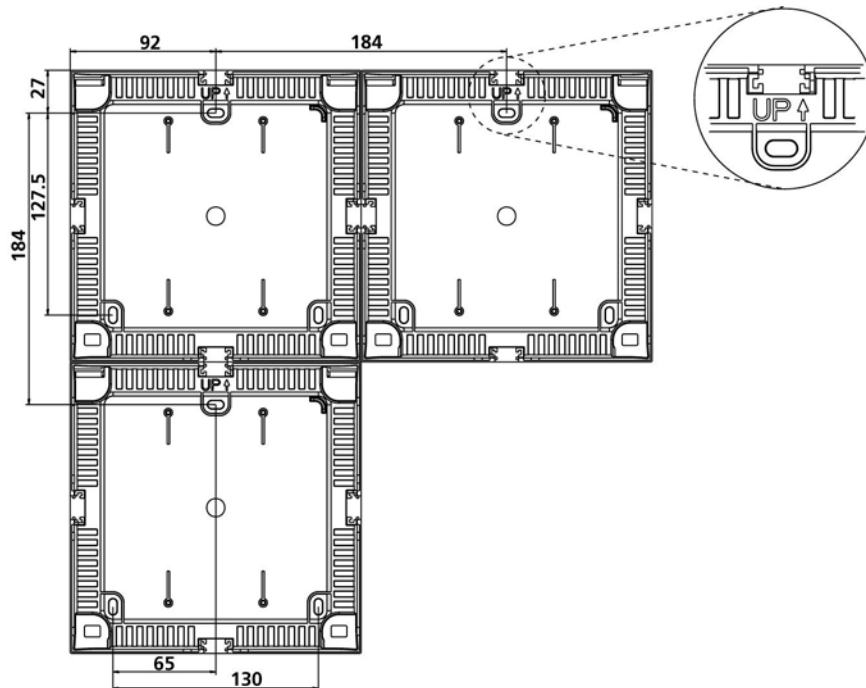
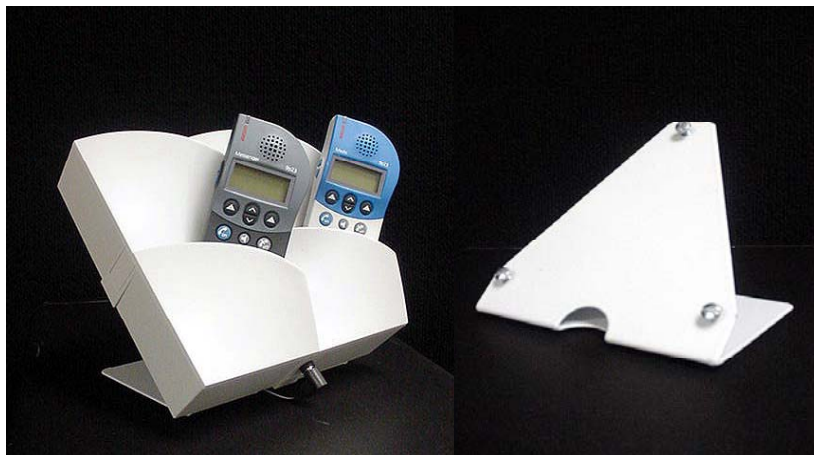

Figure 1 - Mounting dimension is in mm. The modules should be mounted with the marking text, "UP", upwards.
Figure 2 – On a Stand Rack Charger
- The rack charger must be mounted **vertically** (See Figure 1) or **on the stand** (Figure 2) that Ascom provides.